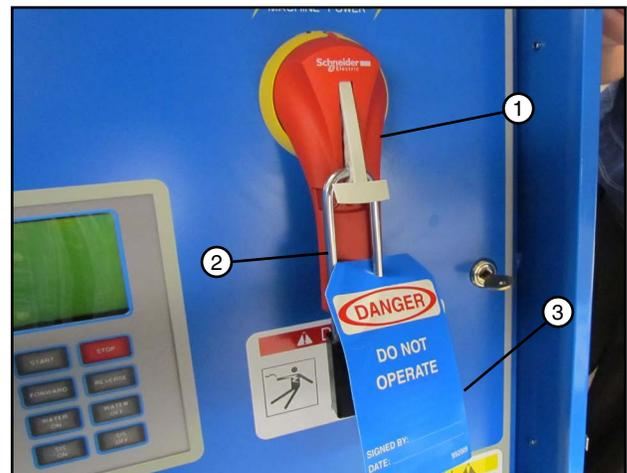

Figure 25-2 1. Main Disconnect
2. SHUT OFF and lock the control panel main power disconnect. See Figure 25-2.
FILL OUT the blue (OSHA safety color code) tag and attach to the disconnect after locking. See Figure 25-2.